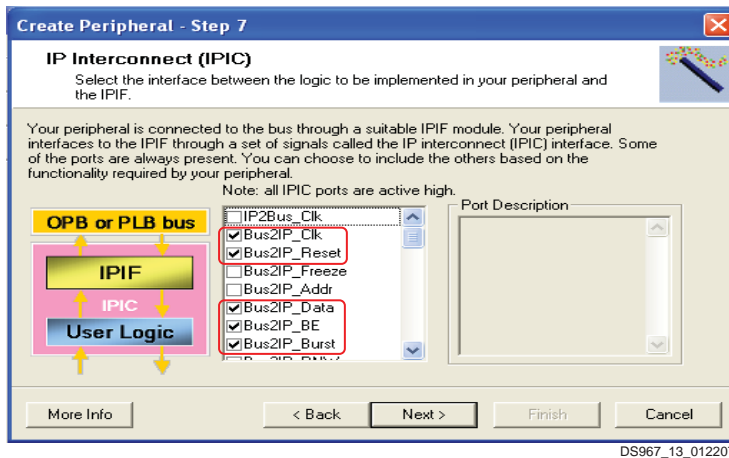

Figure 13: IPIC Setup
11. In the IP Interconnect (IPIC) window, customize the IPIC by making the selections as shown in Figure 13, then click **Next**. This is the default setup for this IP.